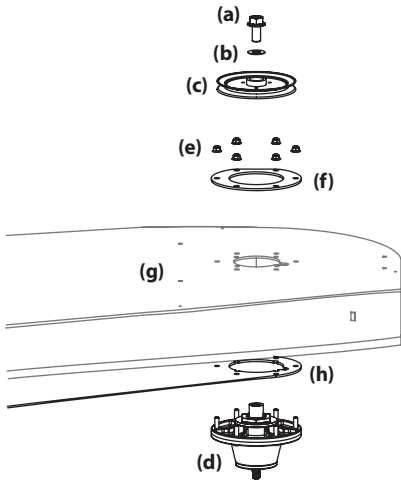

Figure 4-25
- Remove the hex flange bolts (a) and flat washers (b) securing the left and right spindle pulleys (c) to the spindle assembly (d). See Figure 4-25.
- Remove the six (6) flange lock nuts (e) securing the left and right spindle assemblies (d) and the support plates (f) to the deck shell (g). See Figure 4-25.
- Reverse the process to install the spindle assembly. When installing the new spindle assembly be sure to install the hardware exactly as shown in Figure 4-25. Torque the hex flange bolts to 250 ft-lbs. and the flange lock nuts to 21-32 ft-lbs.